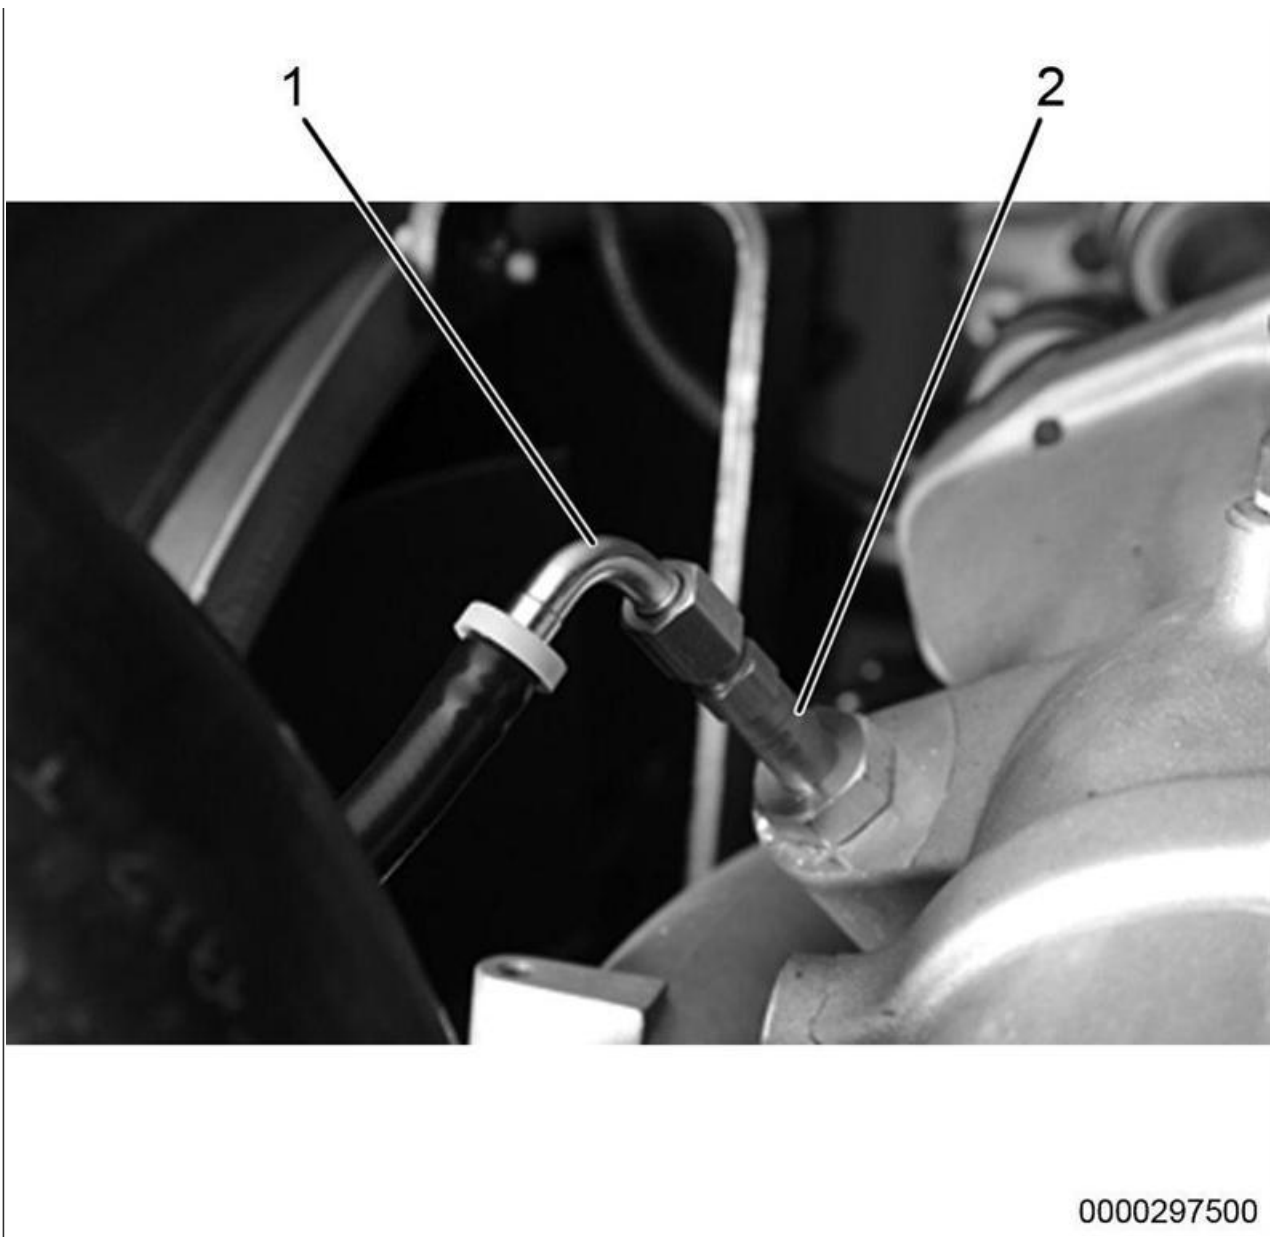

Figure 19: Fluid Supply Line
52. Remove kit-supplied cleaning solution supply line and injector assembly (Figure 19, Items 1 and 2) from cold start fuel igniter port.